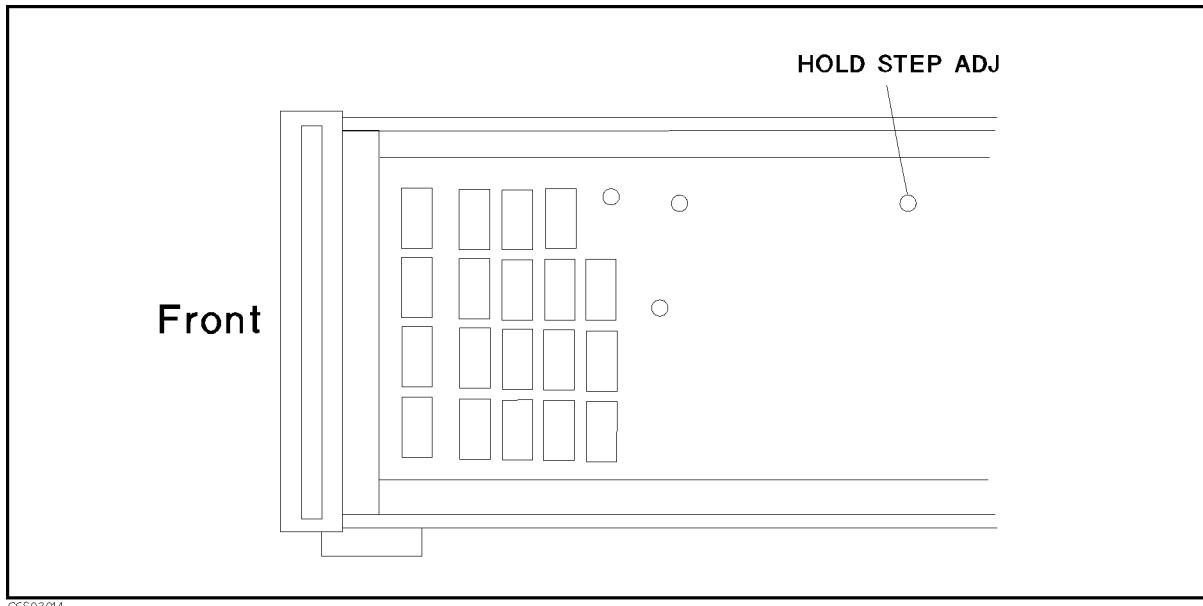

Figure 3-16. Hold Step Adjustment Location
6. Adjust “HOLD STEP ADJ” until the hold step level is within the limits and “PASS” is displayed. Then press **CONT** to complete the adjustment. The adjustment location is shown in Figure 3-16.